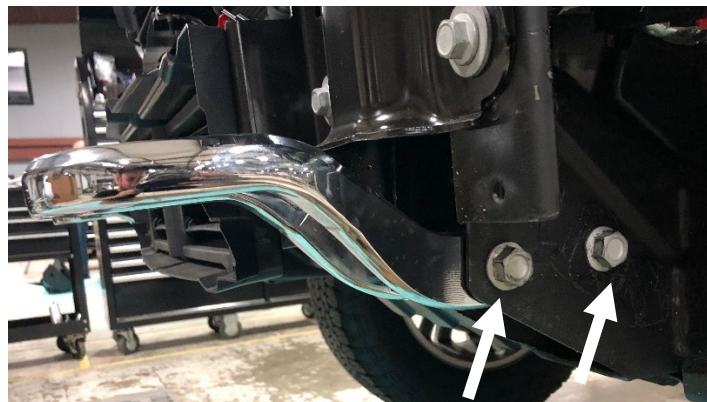

Figure 13
12. If equipped, remove the factory tow hooks by using an 18mm socket wrench to unfasten the two (2) bolts in the frame. (Figure 13)